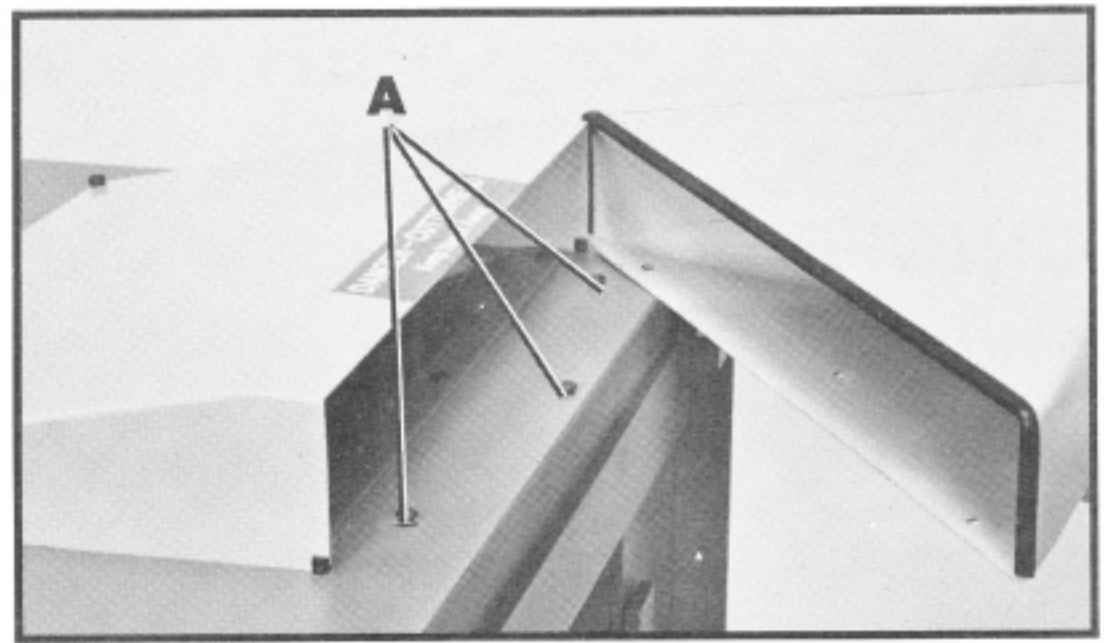
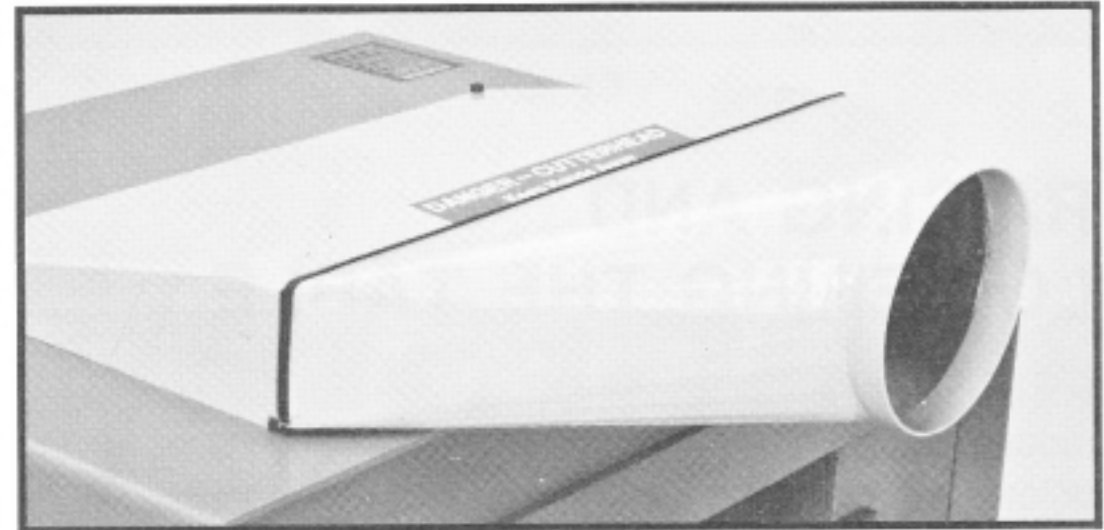

Fig. 5
Fig. 6
To assemble the dust chute to your planer, remove the three screws (A) Fig. 5, from the rear of the planer. The dust chute is then assembled to the rear of the planer, as shown in Fig. 6, and fastened in place using the three screws (A) Fig. 5.